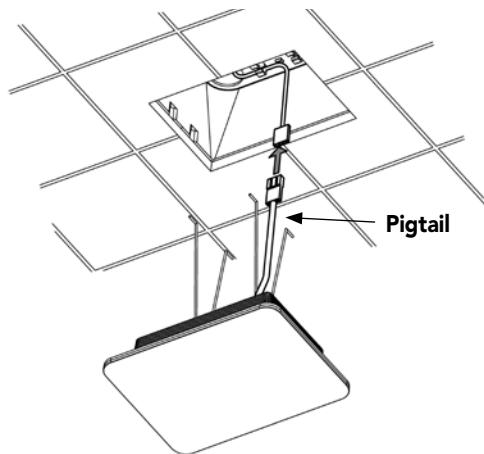

Figure 11
1. Connect the ChromaSteam3 fixture's pigtail to the 30-foot control cable or Duo cable in the junction box (**Figure 11**).